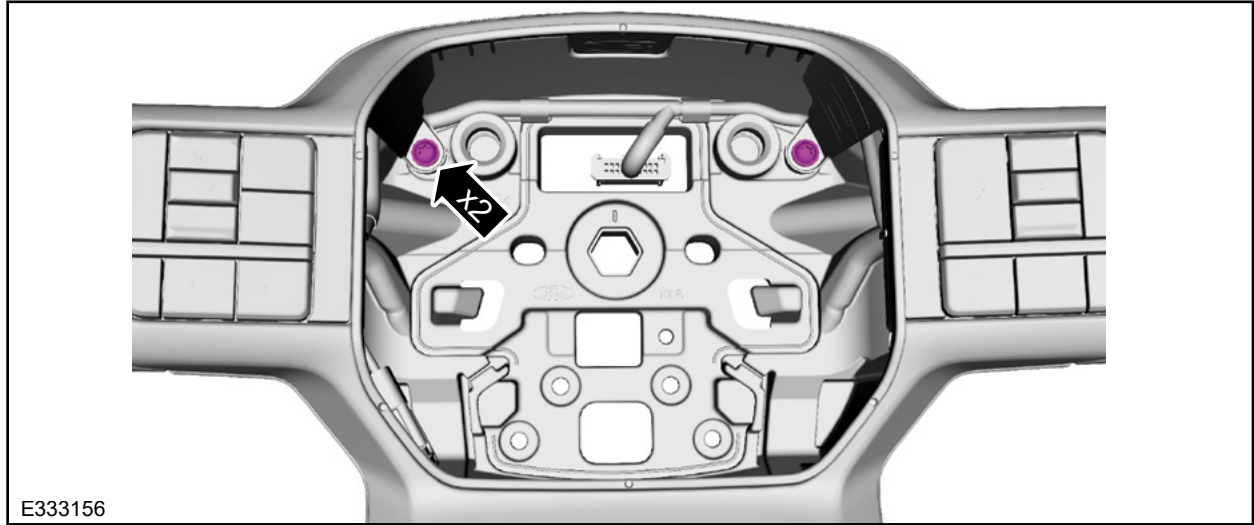

FIGURE 15
2. Remove the steering wheel switch bezel retainers. See Figure 15.